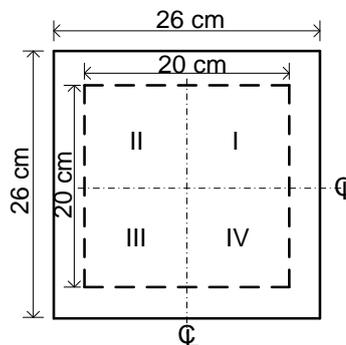

Figure 1. The allowable site area of the model.
4.1 Basic Requirements	<p>4.1.1 Each team has 5.5 hours in total for constructing their building model.</p> <p>4.1.2 The structural components should be composed of the materials provided by the organizer. For example, the structural components can combine with a single wooden stick, multiple wooden sticks, strings, rubber bands and papers.</p> <p>4.1.3 Models must be constructed on the base board (26 cm × 26 cm × 0.55 cm) provided by the organizer. A 3 cm clearance around the edges of the base board must be kept in order to fix the model onto the shaking table.</p> <p>4.1.4 There is only a load platform for each model. The number of mass blocks is from 12 to 24, and two layers of mass blocks are the maximum limit.</p> <p>4.1.5 The vertical projection of the entire model and mass blocks must be located in the 20 cm × 20 cm central area of the base board (i.e., the area enclosed by the dashed lines shown in Fig. 1). Any material (hot-melt glue included) must not contact the fourth-quadrant (IV) base board. In addition, the number of the mass blocks completely, not including partially, located on the fourth-quadrant load platform must be not less</p>
5.2 Mass blocks must be installed on the load platform and not over the boundary of the allowable site area (Fig. 1).